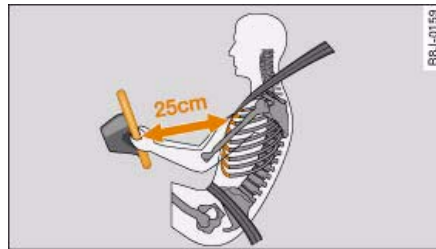

Fig. 199 Minimum distance between driver and steering wheel
⇒ fig. 199.
- Adjust the driver's seat so there is a distance of at least 25 cm between your breastbone and the centre of the steering wheel ⇒ fig. 199.